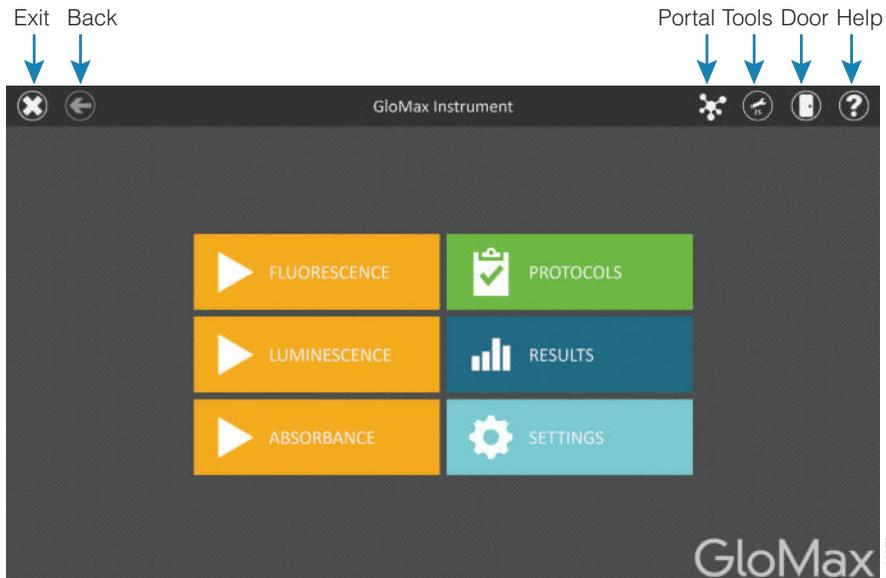

Figure 6. GloMax® Discover software ‘Home’ screen.
2. Shut down the GloMax® Discover Software by tapping on the **x** in the upper left corner (Figure 6).
1. Open the Door of the instrument by tapping the **Door** icon on the top right corner of the screen (Figure 6). When the plate tray extends, add the plate such that well A1 of the plate corresponds to the label “A1” on the plate tray (Figure 7).